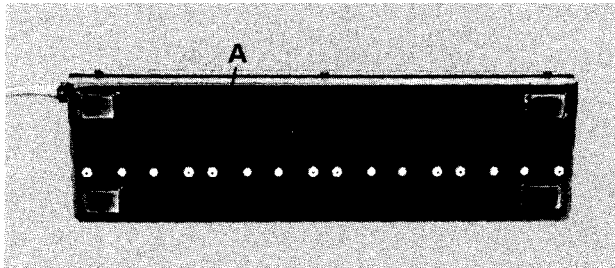

Fig. 26
- 1) Remove cover from footswitch by removing (2) #10-32 x 3/8" machine screws, one from each end of the footswitch, and (3) #10-24 x 3/8" self tapping screws along the back of the footswitch.
- 2) Remove foot pedal cover by removing screw, Item A, Fig. 26 and lifting cover upwards and towards front of footswitch.
- 2) Loosen lock nut, Item A, Fig. 26 under the malfunctioning switch.
- 5) While holding the "stop" in position with an allen wrench, tighten the lock nut, Item A, Fig. 26 securely.